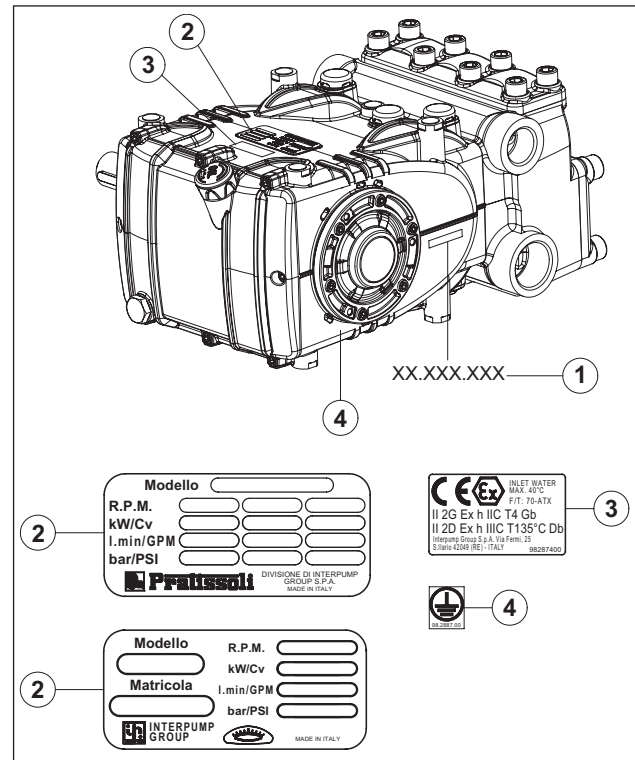

Fig. 1
Each pump has its own Serial No. XX.XXX.XXX see pos. ① and an identification plate see pos. ② in Fig. 1 which shows: